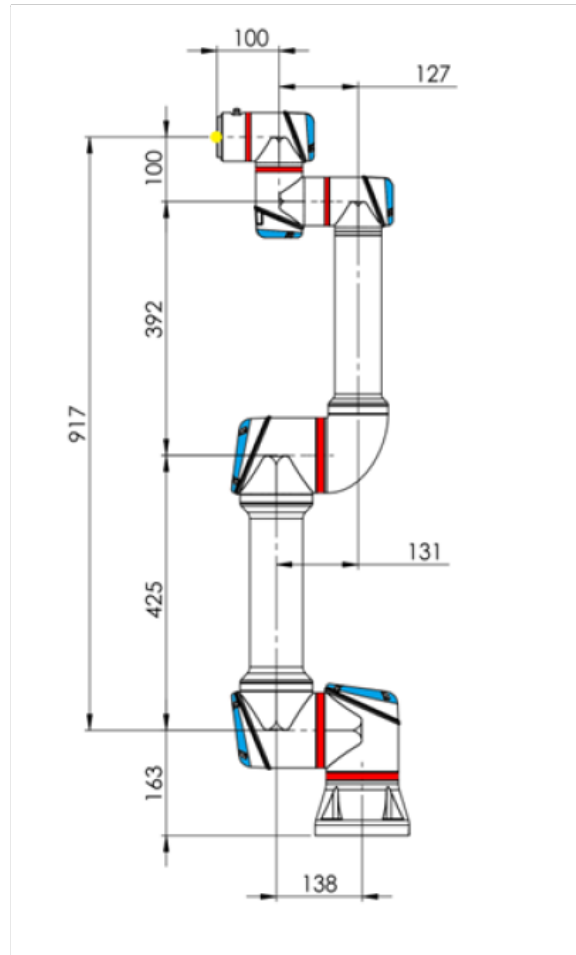
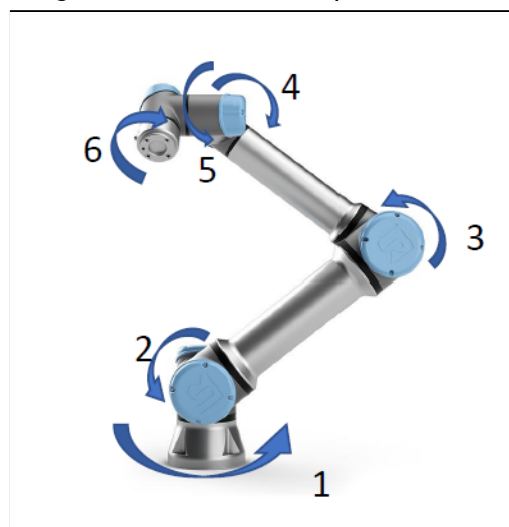
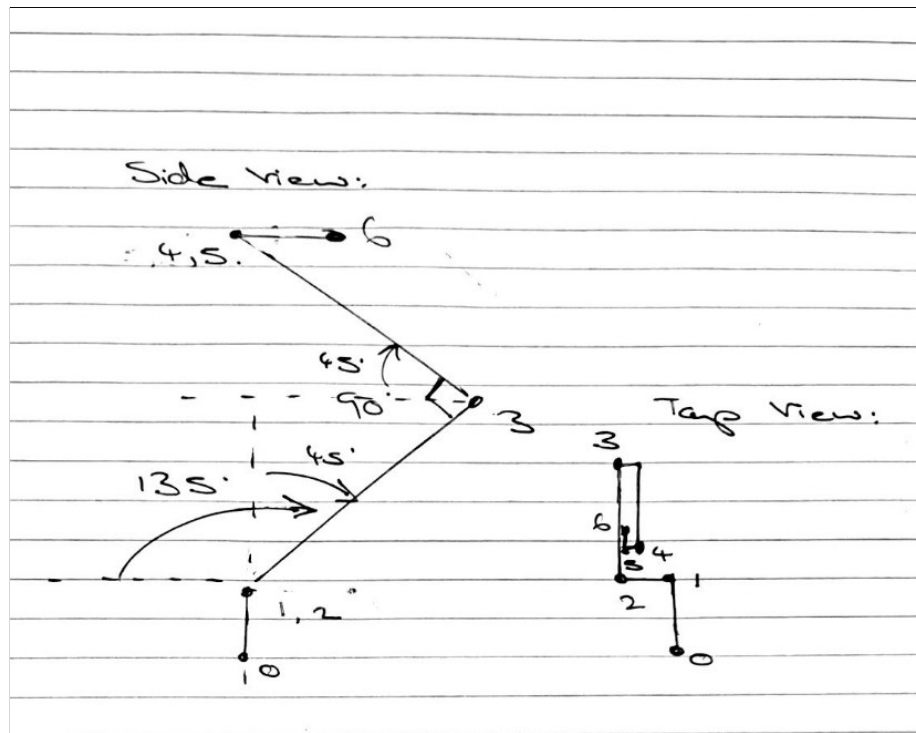

Figure 1 - Structural Representation
Figure 2 - State Configuration
Figure 3 - Top & Side View
- a. The following section highlights the configuration of a six-axis arm robot (UR5e) with six rotational joints. *Figure 1*, highlights the structural outline of the robotic arm. *Figure 2*, denotes the present configuration in state $q[0, -\frac{3\pi}{2}, \frac{\pi}{2}, 0, 0, 0]$. *Figure 3*, depicts a top and side view of the state configuration, illustrating the 3D arrangement.